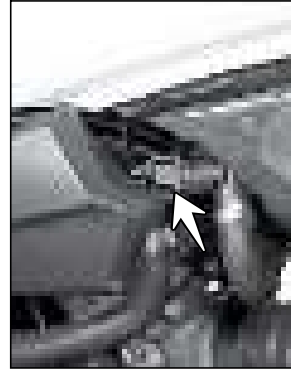

Fig. 2.8A
- Press and pull the fuel hose quick coupler (Fig. 2.8A) and disconnect the fuel hose from the fuel filter. (Fig. 2.8B)